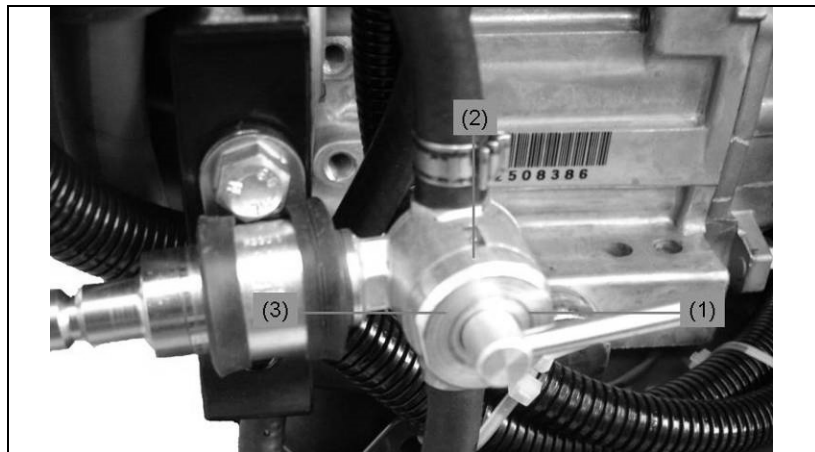

Fig. 5-10: 3-way fuel tap
3. Set the fuel cock to the internal tank (*Fig. 5-10-(2)*).
8. Set the fuel cock to "external fuelling" (*Fig. 5-10-(3)*).